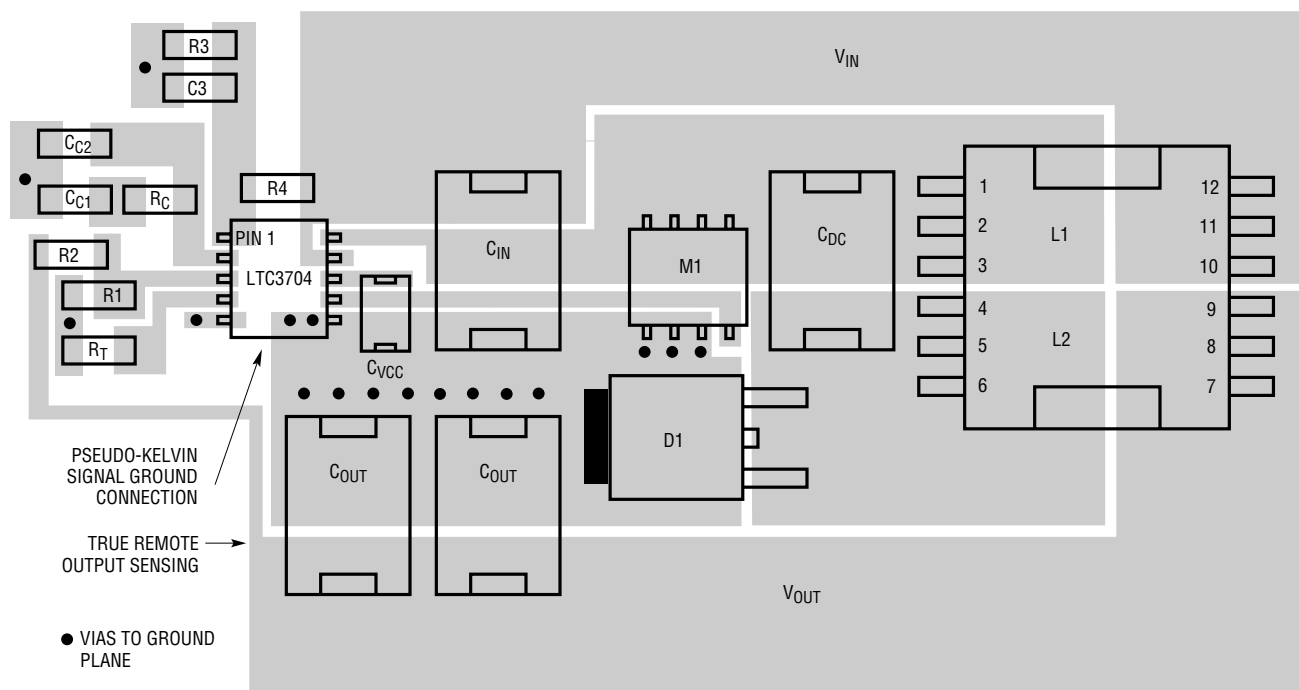

Figure 22. LTC3704 Positive-to-Negative Converter Suggested Layout
6. Place the small-signal components away from high frequency switching nodes. In the layout shown in Figure 22, all of the small-signal components have been placed on one side of the IC and all of the power components have been placed on the other. This also allows the use of a pseudo-Kelvin connection for the signal ground, where high di/dt gate driver currents flow out of the IC ground pin in one direction (to the bottom plate of the  $INTV_{CC}$  decoupling capacitor) and small-signal currents flow in the other direction.